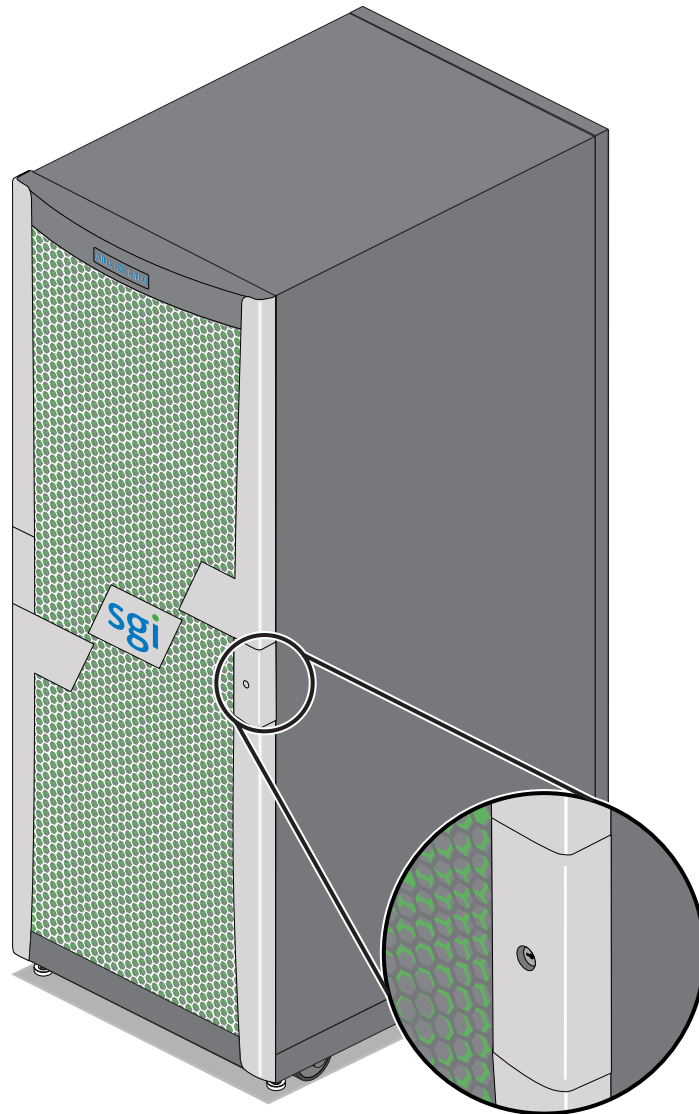

Figure 4-2 Front Lock on Tall (42U) Altix Rack
At the time this document was published only the tall (42U) Altix ICE rack (shown in Figure 4-2) was approved for ICE system racks shipped from the SGI factory.
- **Front and rear door.** The front door is opened by grasping the outer end of the rectangular-shaped door piece and pulling outward. It uses a key lock for security purposes that should open all the front doors in a multi-rack system (see Figure 4-2 on page 48).